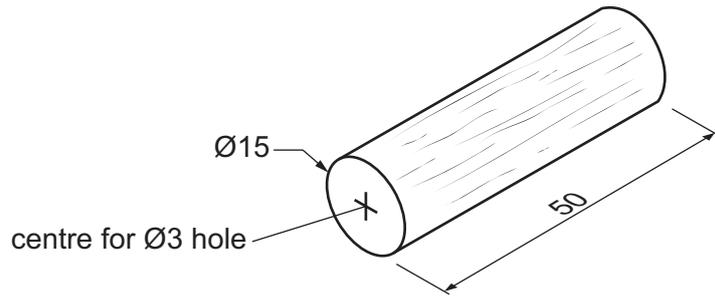

Fig. 12.3
- (e) Fig. 12.3 shows the hardwood dowel handle with its centre marked out on the end. A $\text{\O}3$ mm hole will be drilled in the centre of the dowel.